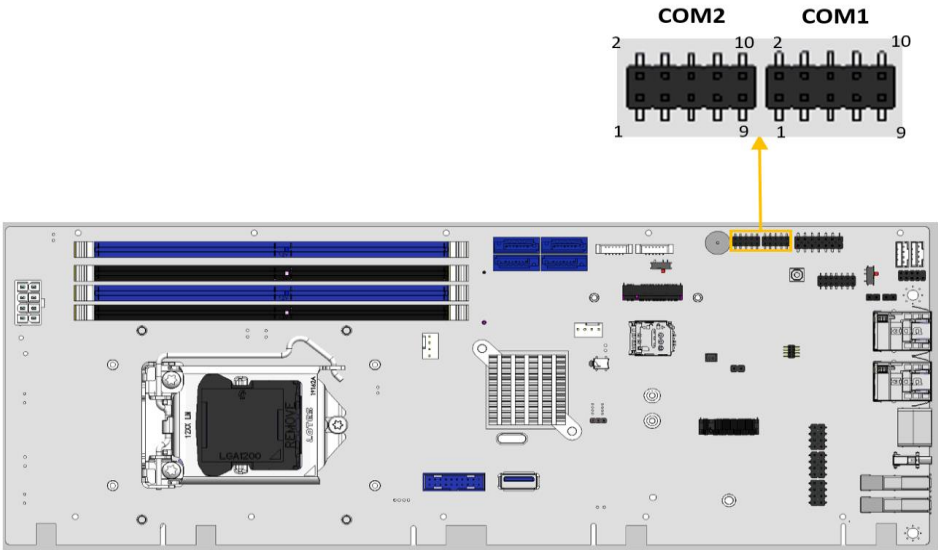

Figure 3-20: RS-232 Serial Port Connector Location
- CN Location:** See Figure 3-20